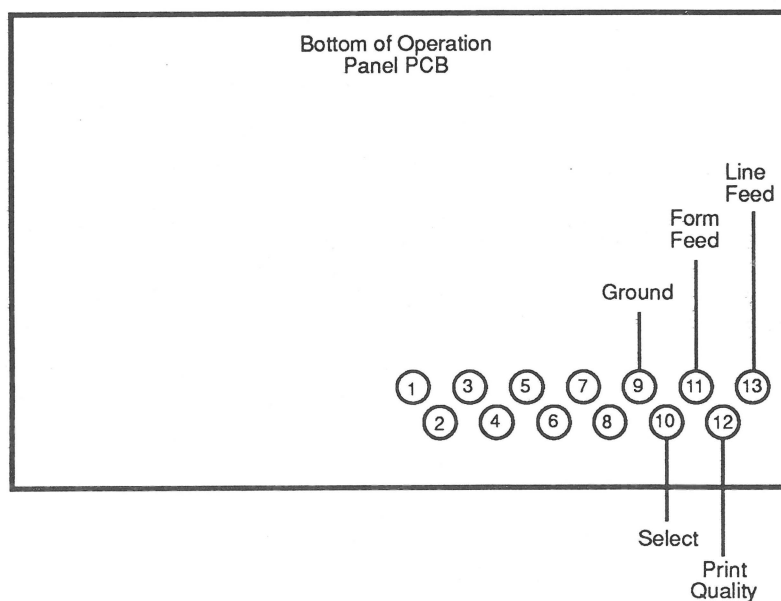

Figure 3-1
- c) Check the switches by measuring them at the connector on the bottom of the operation panel PCB as shown in **Figure 3-1**.